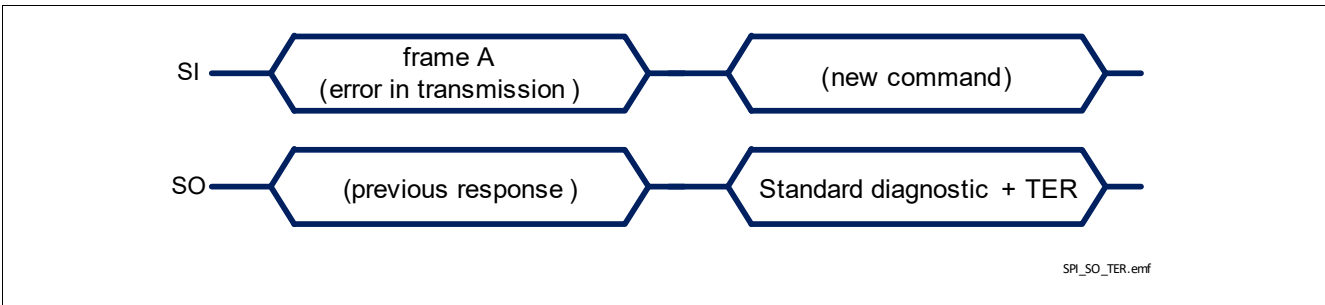

Figure 33 TLE75602-ESD response after a error in transmission
- in case an error in transmission happened during the previous frame (for instance, the clock pulses were not multiple of 8 with a minimum of 16 bits), shown in **Figure 33**